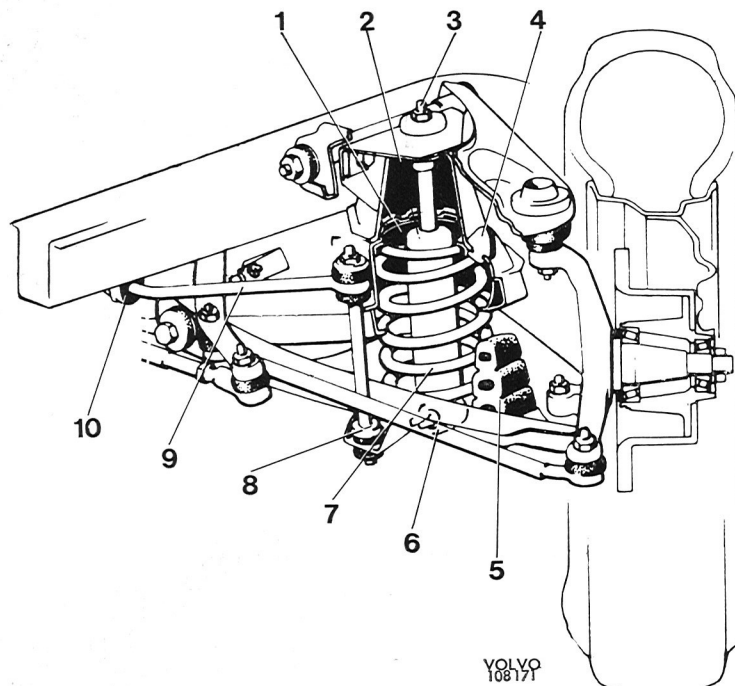

Fig. 7-2. Front spring and shock absorber
The Volvo 140 is provided with coil springs both front and rear. The front wheel suspension is independent. The upper ends of the front spring (1, Fig. 7-2) are seated in housings formed in the front axle member, and are located in the bottom of the lower control arms. The left side spring has a rubber spacer located on top of the spring.
4. Disconnect the steering rod from the steering arm. Loosen the brake hose clamps. Remove the stabilizer attachments (7, Fig. 7-2).
The stabilizer (8, Fig. 7-2), which is attached to both the lower control arms (7) and to the frame (9), increases the stability of the vehicle.